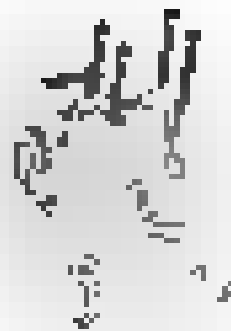

Figure 2-7
8. Place the BQRS unit on top of the rear scope ring, 5/16", but do not tighten. The rear socket head cap screws using the T-25 Torx wrench. Use Loctite® if desired. Figure 2-7